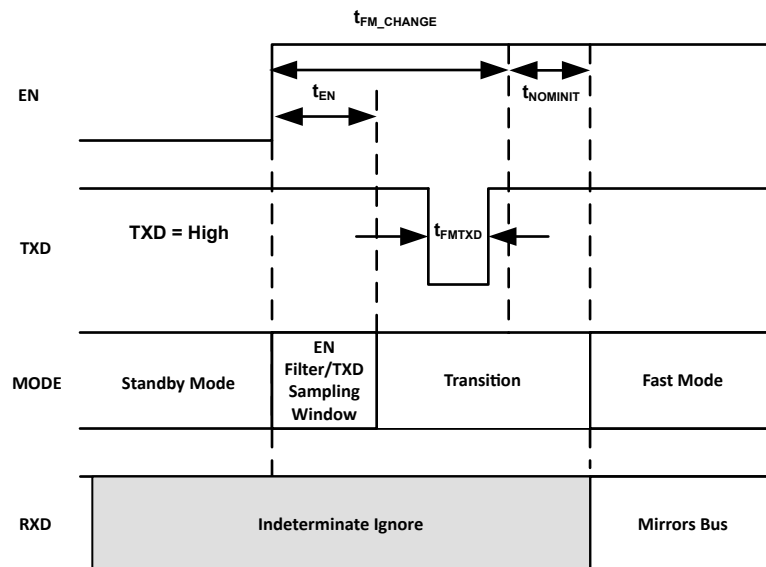

Figure 2-7. Fast Mode from Standby Mode Sequence Timing in Pin Control
Fast mode is a mode designed for end-of-line programming, allowing for data rates up to 200 kbps. To enter fast mode, the same power-up procedure applies as outlined for in Section 2.2 up until the transition out of standby mode. To transition to fast mode from standby mode, implement the same setting as above, but input a low pulse of width t_{FMTXD} on the TXD pin as shown in Figure 2-7. Thus, implement this setting:
- TXD = low pulse for t_{FMTXD} (see Figure 2-7)